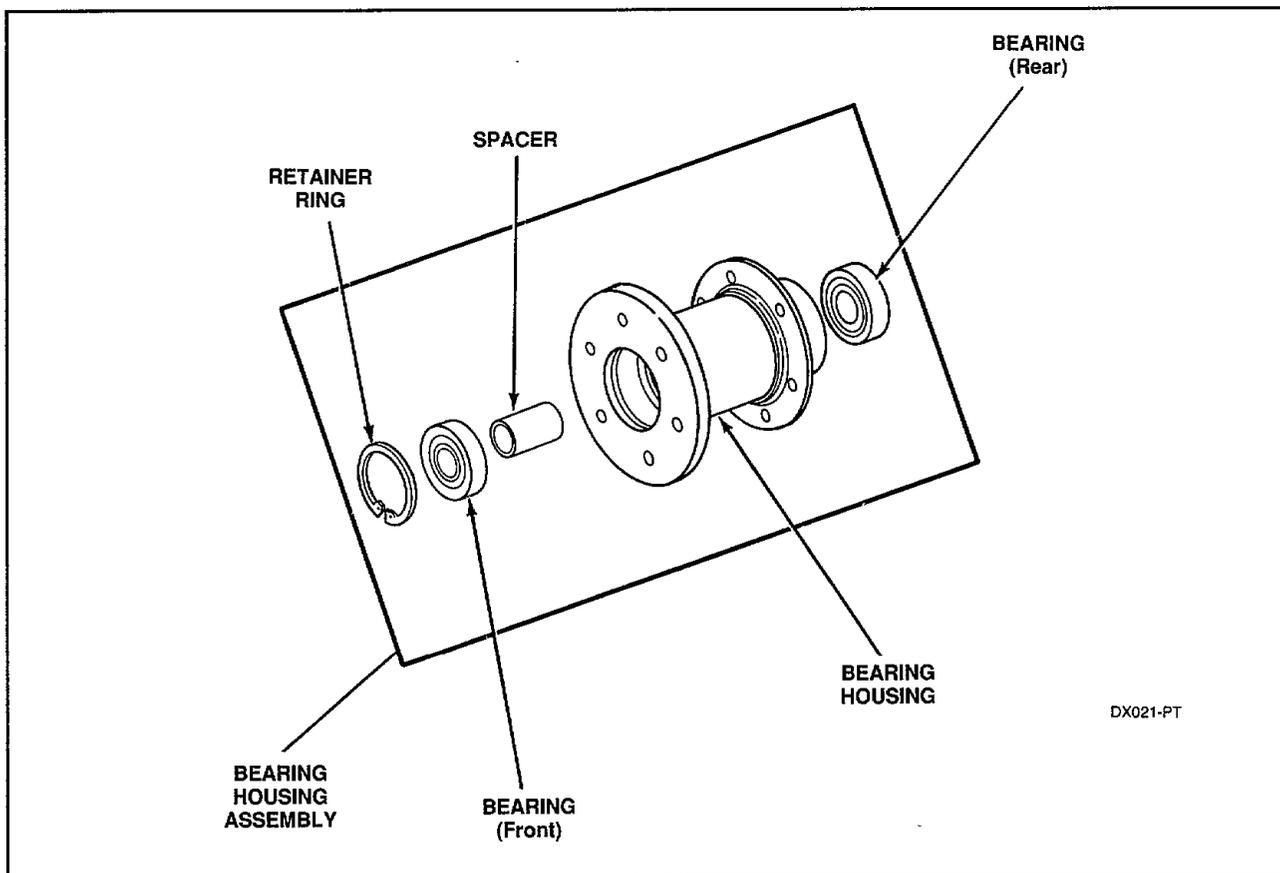

Figure 24
**NOTE:** Bearings are a press fit in the bearing housing and can be driven out of the housing, using a hammer and a piece of hardwood dowel. The front bearing is held in with a retainer ring which must be removed first before attempting to remove the front bearing, *Figure 24*.
- e. When installing new bearings into the bearing housing, first press the front bearing into the housing until it bottoms. Then reinstall the retainer ring in front of the front bearing, *Figure 24*.
- f. With the bearing spacer in place, press the rear bearing into the housing until the spacer is snug between the two bearings, *Figure 24*.